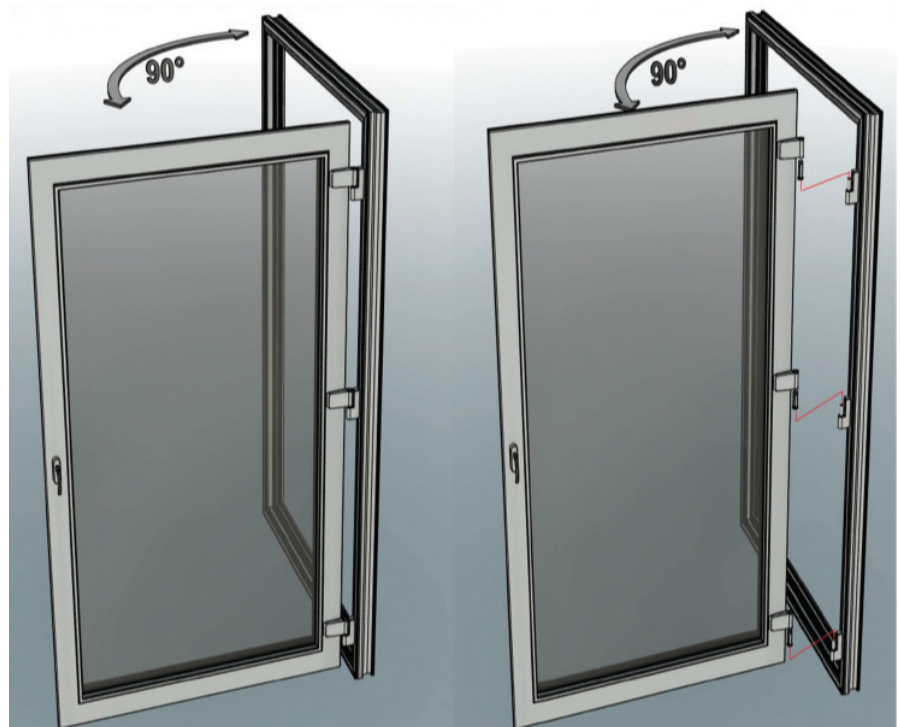

Figure 20
2. Lift the sash out of the frame portion of the hinges. (Figure 20)
1. Anchor straps are first installed 150mm (6") from each corner. The anchor straps are installed by inserting them into the groove parallel to the frame and turning 90°. They are not applied at the sill with the exception of tilt & slide and parallel slide doors. (Figure 20)